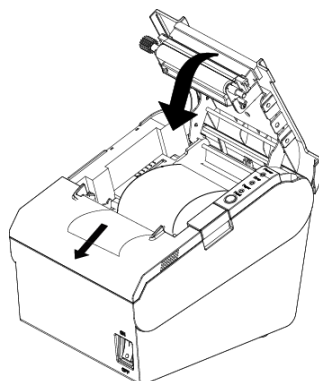

Figure 4.6.3
4) Close the top cover of TP700. (Like figure 4.6.3)